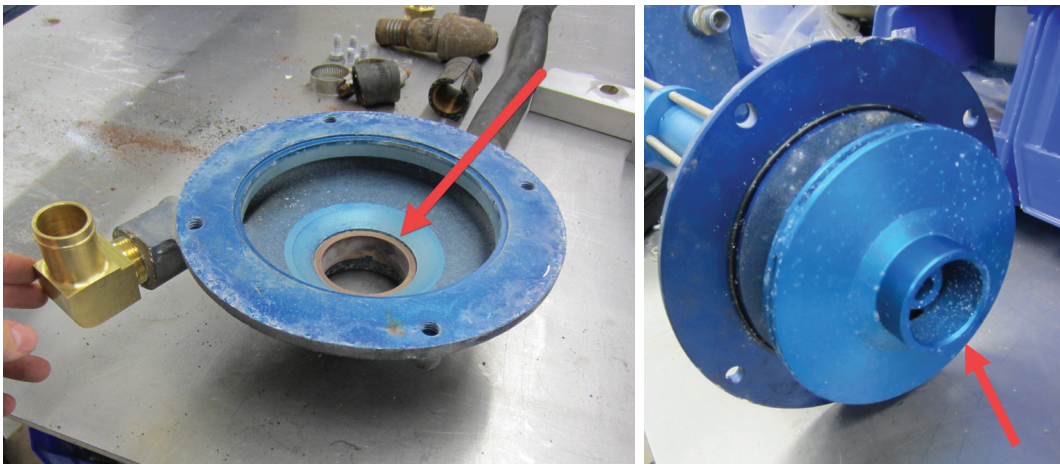

Figure 16
27. Apply a coating of graphite spray to lower impeller housing brass wear ring and end of impeller, see Figure 16.